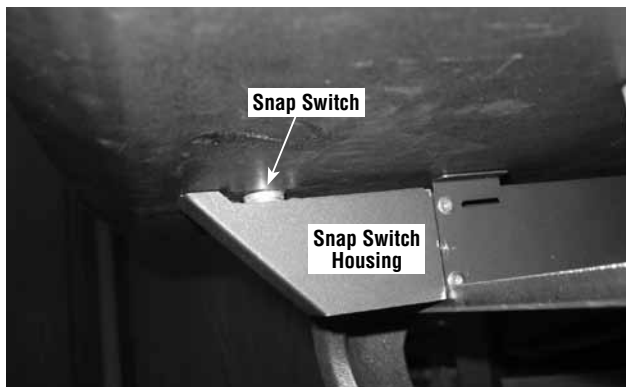

Figure 19
Step 4. Using a 9/16" wrench, slowly start to tighten the bottom heatshield bolt. While tightening bolt, and before snug, make sure the snap switch housing does not shift. **DO NOT OVERTIGHTEN.** Make sure snap switch is making firm, flat contact with ashlip, and does not shift. See **Figure 19**.